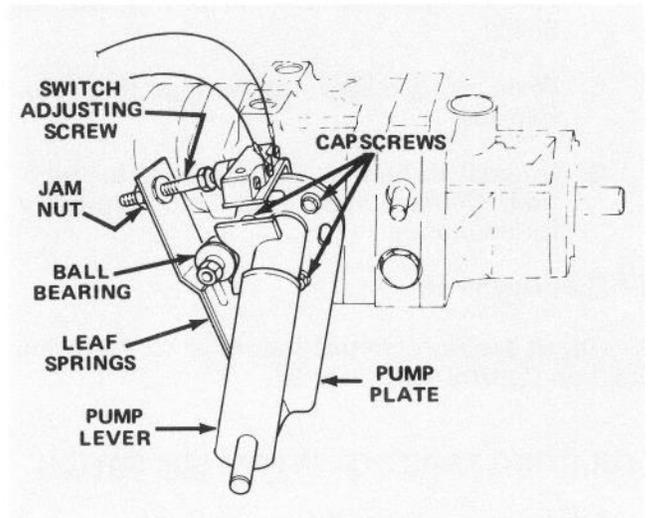

Figure 55
1. Park vehicle on a level surface and turn engine off. Apply the parking brake, tip seat forward and actuate pump lever (Fig. 55) to insure assembly is properly seated and operating freely. Correct any discrepancy.
of pump plate counterclockwise (Fig. 55). By contrast, tap pump plate clockwise if wheel is rotating backward (Fig. 55). When wheel stops rotating, tighten capscrews holding pump plate against side of transmission. Verify the adjustment with throttle in SLOW and FAST position.
- A. Ball bearing is loose or worn out (Fig. 55).
- F. Weak or damaged leaf springs (Fig. 55). Replace.
2. Actuate the pump lever (Fig. 55) to insure all parts are operating freely and seated properly.
3. Loosen jam nut. Rotate switch adjusting screw (Fig. 55) until there is a gap between head of screw and switch button.